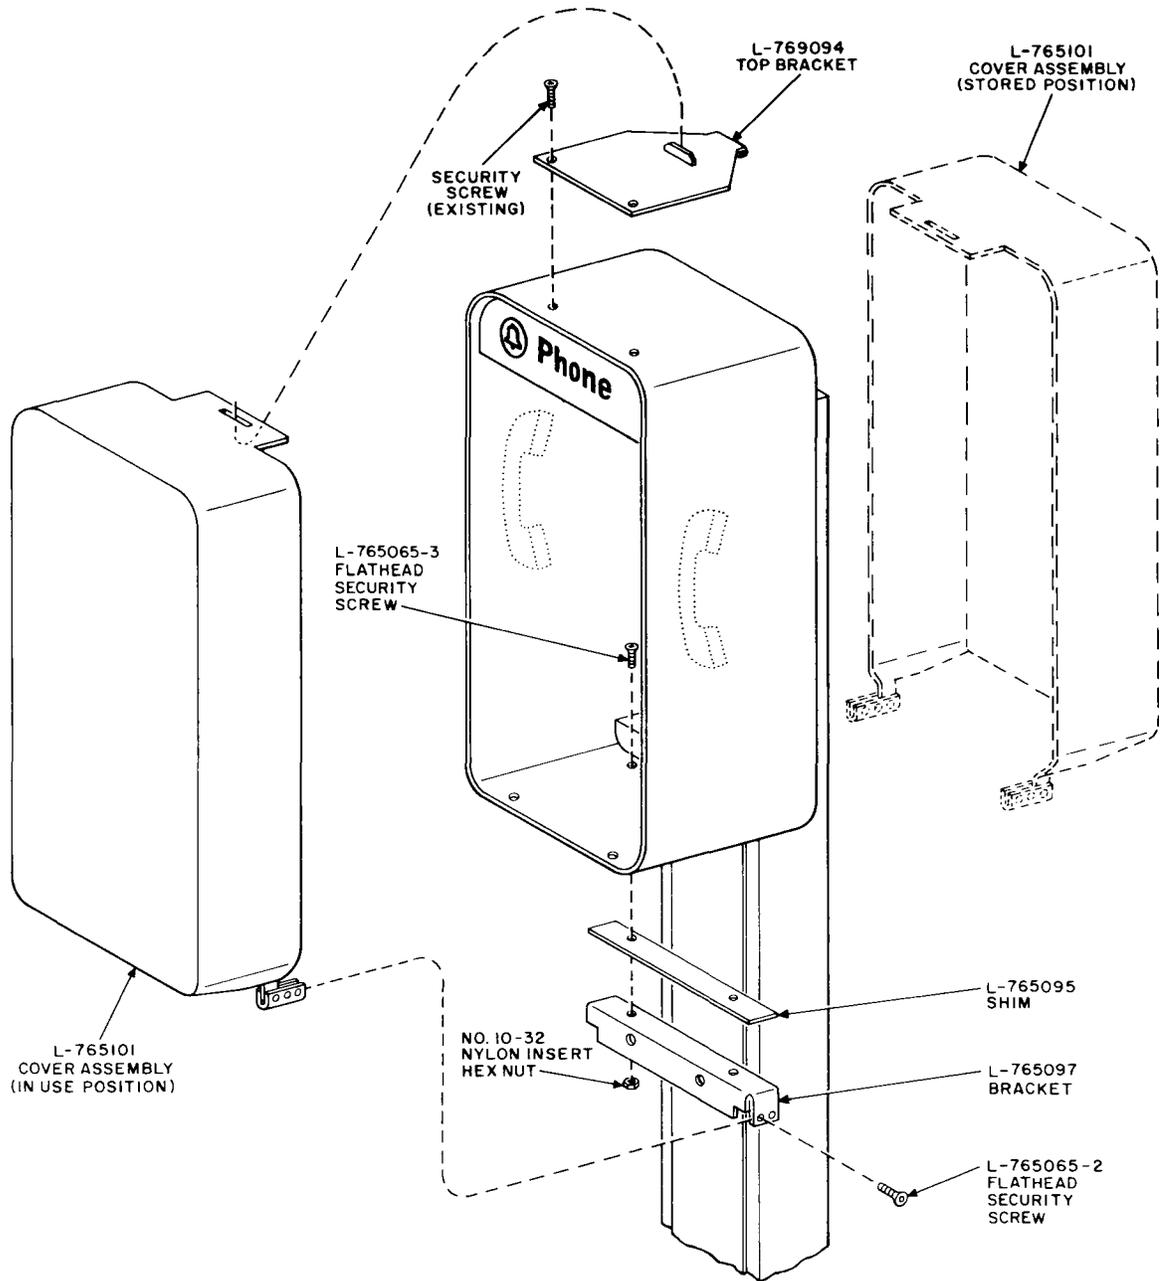

Fig. 17—List 75 Cover Assembly—Installation Procedure on List 31 Housing
3.19 KS-20842, List 75 Cover Assembly (Fig. 17): Install the List 75 cover assembly on List 31 housing per Fig. 17. All components are furnished with cover.